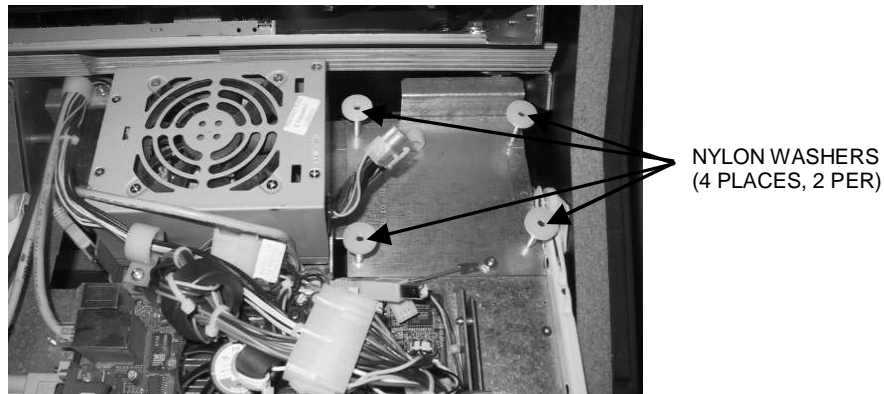

FIGURE 10 - WASHERS SUPPORTING I/O MOUNTING BRACKET IN UPRIGHT GAME
5. Stack two provided nylon washers on each standoff where the original I/O board was previously mounted. See Figure 10.